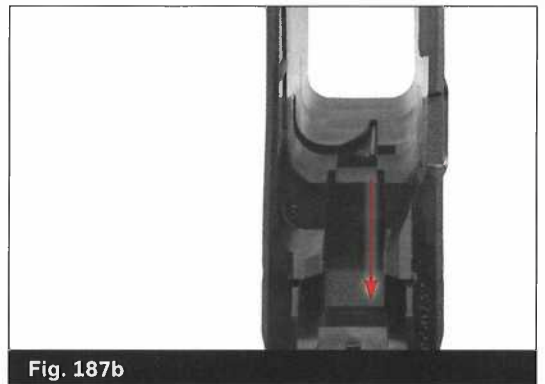

Fig. 187b
- Grasp the top of the rod magazine catch spring with a pair of pliers and pull the spring straight up out of its recess in the frame. (Fig. 187b)